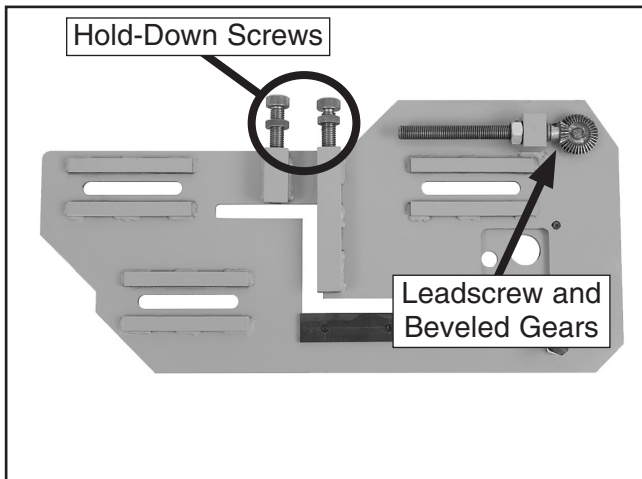

Figure 51. Back side of shearing support frame.
3. Turn the support frame over, remove the two hold-down screws, then thoroughly clean the threads of the screws, lock rings, and nuts (see **Figure 51**).
5. Thoroughly clean the threads of the leadscrew, beveled gears, and leadscrew nut (see **Figures 51–52**).